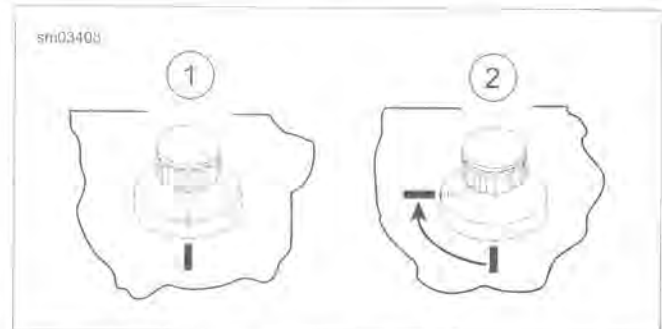

Figure 3-69. Final Tightening for Cylinder Head Bolts
7. See Figure 3-69. Final-tighten each bolt an additional 90 degrees (90 degrees) in the same sequence. For best results use **SNAP-ON TORQUE ANGLE GAUGE** (Part No. TA360).